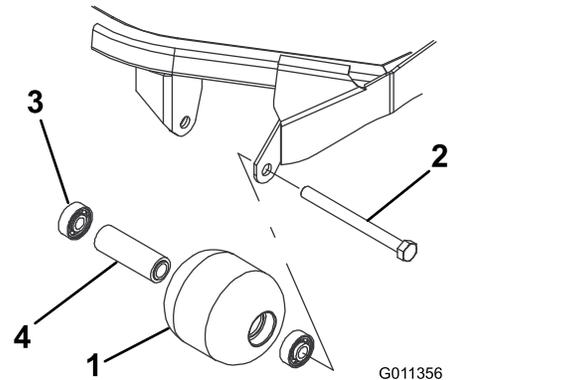

Figure 100
1. Remove the roller-mounting bolt (Figure 100).
4. Inspect the roller housing, bearings, and bearing spacer for damage (Figure 100). Replace damaged components and assemble.
1. Press the first bearing into the roller housing (Figure 100). Press on the outer race only or equally on the inner and outer race.
2. Insert the spacer (Figure 100).
3. Press the second bearing into the roller housing (Figure 100). Pressing equally on the inner and outer race until the inner race comes in contact with the spacer.